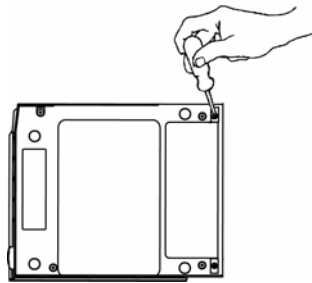

Figure 1
2. Loosen (counter clock-wise) both screws from the battery pack cover and remove the cover. See figure 1.
5. Close the battery pack cover and fasten with the screws. See figure 1. Connect the external power supply to the SmartMonitor 2 and insure that it is plugged into a functional AC wall outlet for a minimum of 6 hours. There is no need to power on the SmartMonitor 2 to charge the battery pack.